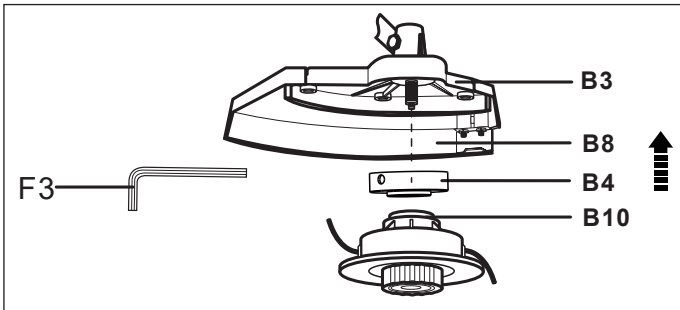

Fig. 6
- d). Insert the Hex key 4 mm (F3) into the hole to lock the spindle.
- e). Screw the trimmer head (B10) on the spindle (B2) anti-clockwise securely. (See Fig. 6)
- f). Remove the Hex key 4 mm (F3).